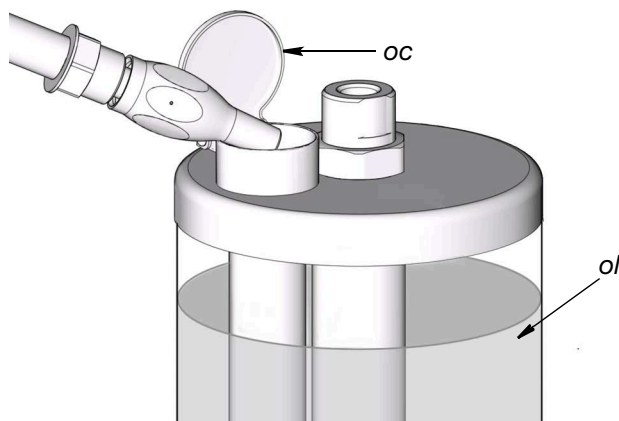

FIG. 5
2. Slowly add oil (*o*) until the reservoir is filled to capacity (FIG. 5).
3. Close the oil fill cover (*oc*) to prevent contamination and spillage (FIG. 5).